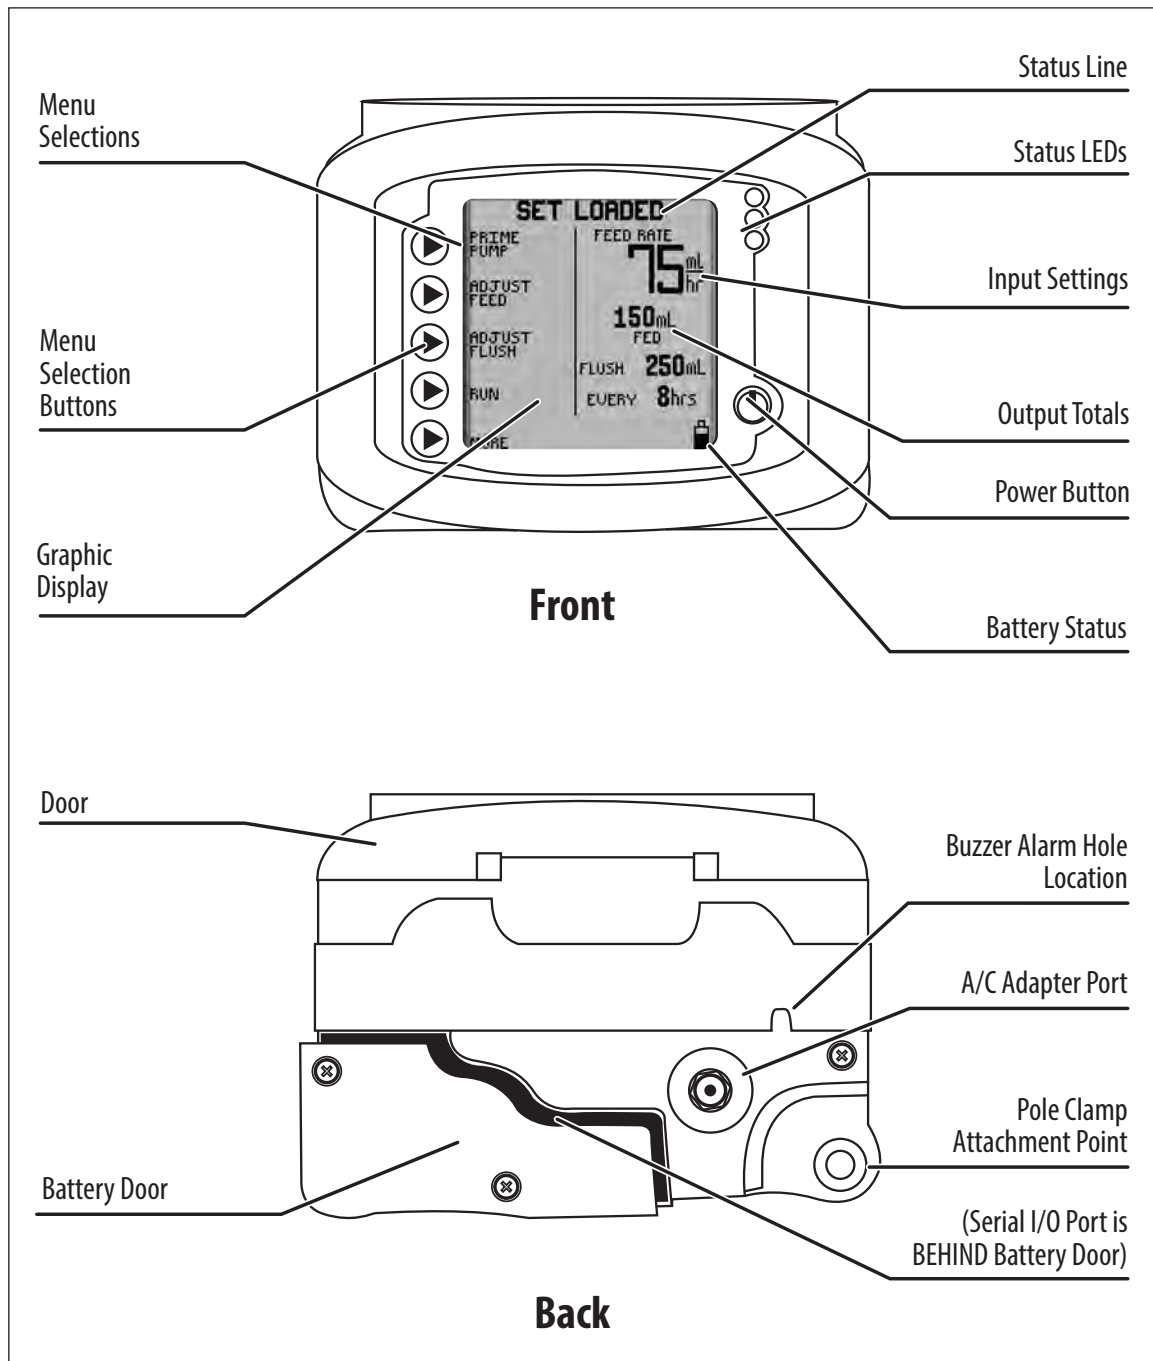

Figure 1A. Kangaroo™ Joey enteral feeding pump features, front and rear views.
13. **Warning:** The serial I/O port (see Figure 1A) is intended only for use by the manufacturer or trained service technician.
Plug the A/C Power Adapter (Part Number 383491) into the A/C adapter port on the back of the pump. See Figure 1A to locate port on pump.